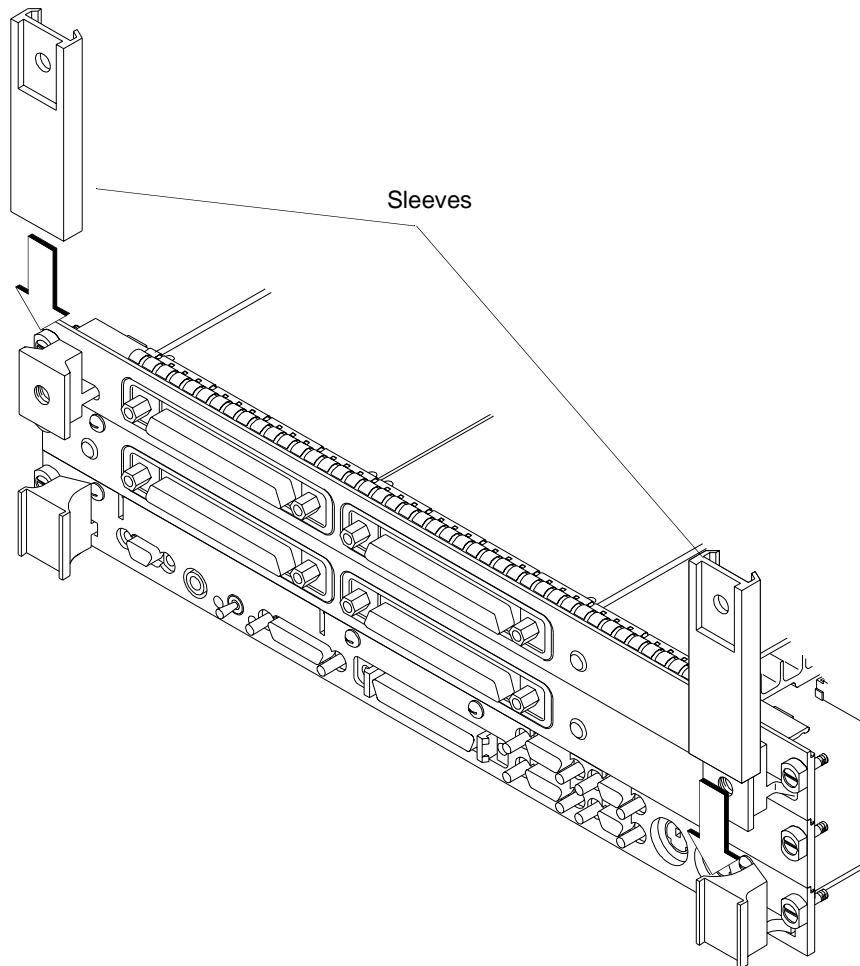

Figure 2-11 **Installing Ejector Handle Sleeves**
- b** Slide the sleeves over each set of handles, as shown in Figure 2-11.